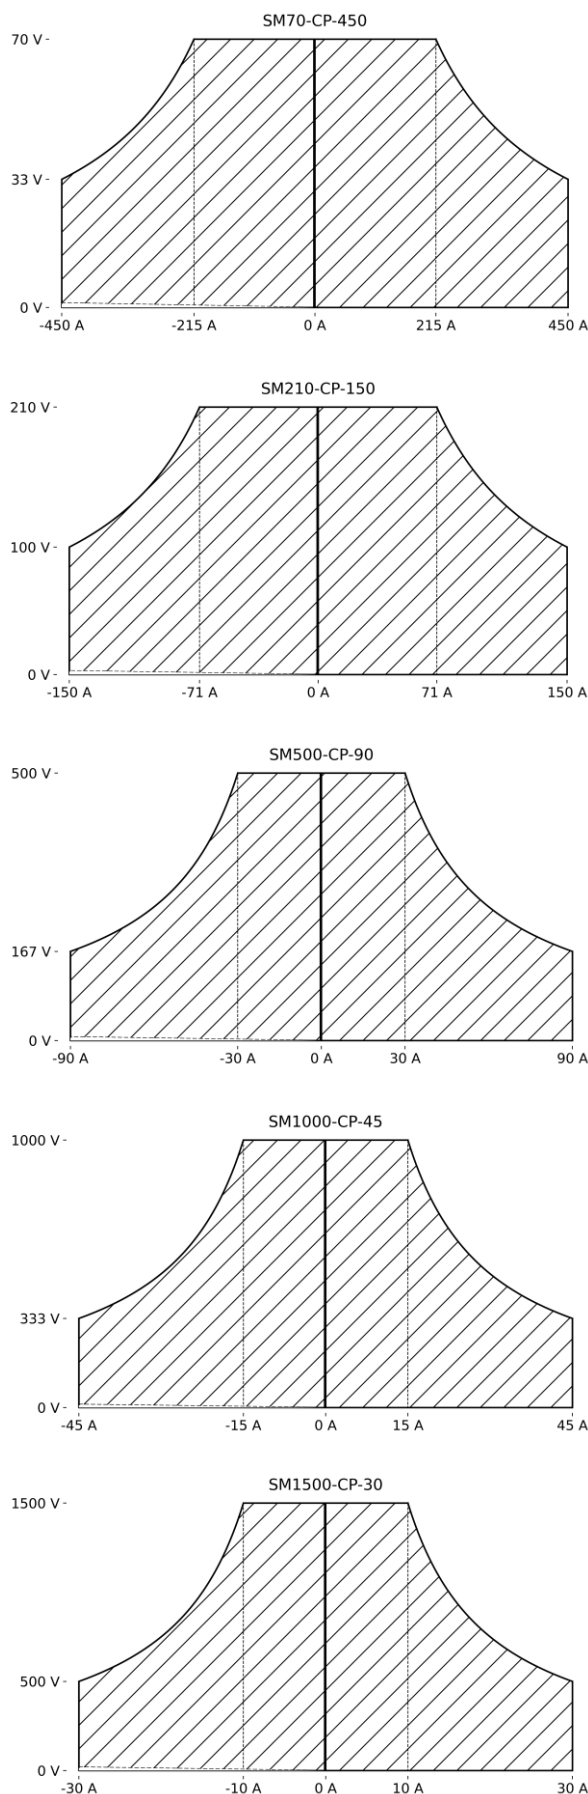

Figure 6.1: Output ranges of different models
- The change of mode occurs at the crossing of the voltage, current and power settings. Figure 6.1 shows the output ranges of different models.